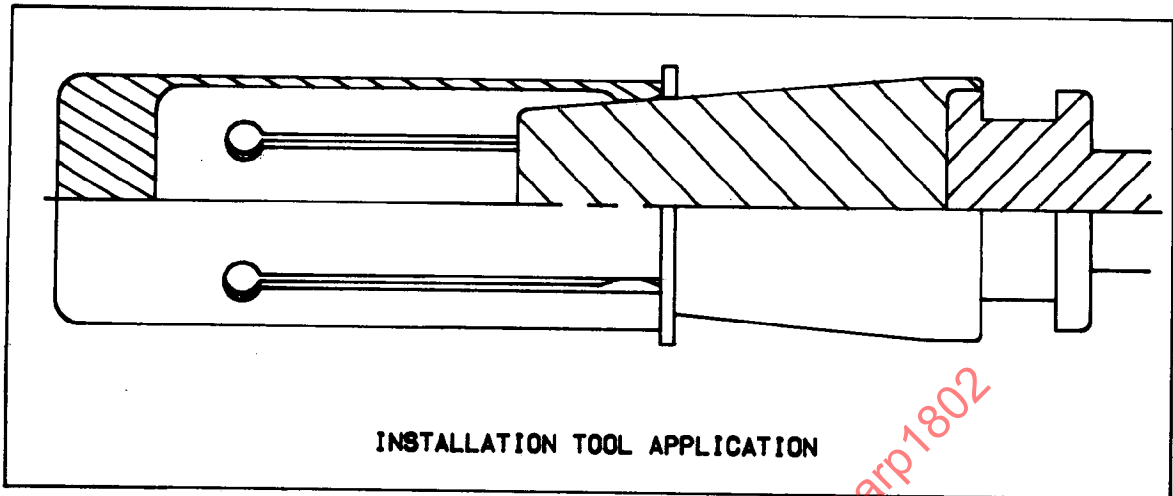

FIGURE 16
8.3 Installation: It is usually advantageous to install these backup rings before fitting the O-ring to the groove. For O.D. piston applications, unless two-piece glands are used, they must be stretched into place and usually sized to correct for the distortion during installation. Special tools are required for O.D. piston installations as indicated by Figures 16 and 17.